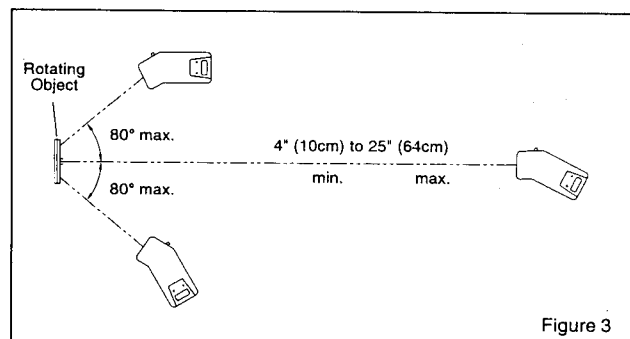

Figure 3
3. Aim the 780 towards the object to be measured, keeping within the limits of distance and angle as shown in Figure 3.